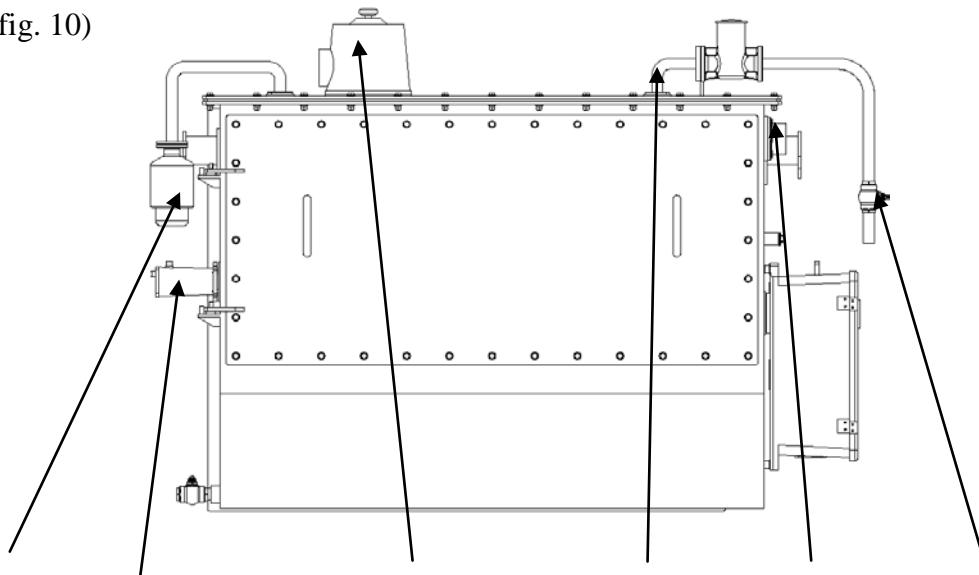

Fig. 10 Breather Sudden pressure relay Pressure relief valve Oil filling pipe Oil level gauge Oil filling valve
6.2.1 To fill oil under atmospheric pressure. There is no oil conservator equipped with transformer. Oil is directly filled through tap changer oil filling pipe. Oil conservator valve is in the middle. (See fig. 10)